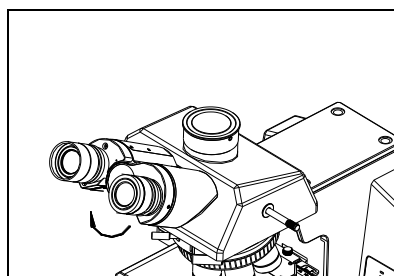

Fig.17
(1) Turn over the eye-cap if the user is wearing glasses, so that it can prevent the glasses touching the eyepieces and avoid damaging to both glasses and eyepieces.
(2) Open the eye-cap if the user doesn't wear glasses, so that it can prevent stray light disturbing the observation. (See Fig. 17)